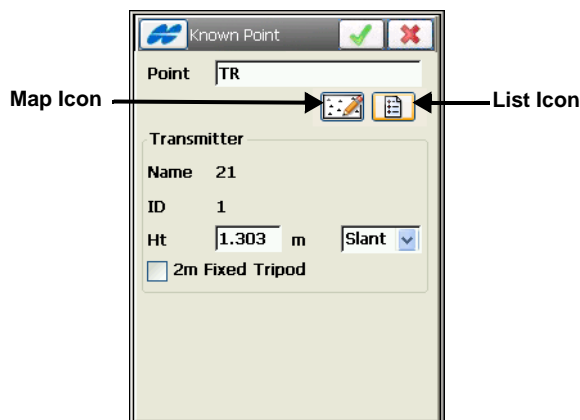

Figure A-3. Transmitter Over Known Point
4. If *Known Trans Horz Pos* was enabled, the **Known Point** screen displays (Figure A-3 on page A-3). Select the point over which the transmitter was setup using the **map** or **list** icons and tap the ok button.